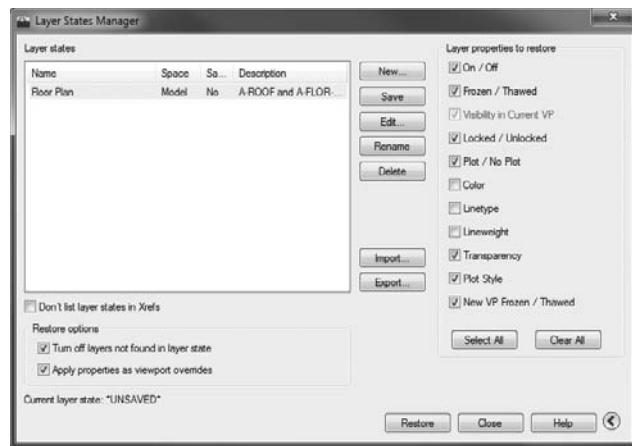

FIGURE 6.59 The Layer States Manager dialog box with the restore options selected
9. Uncheck the Color, Linetype, and Lineweight options (see Figure 6.59), and then click the Restore button.